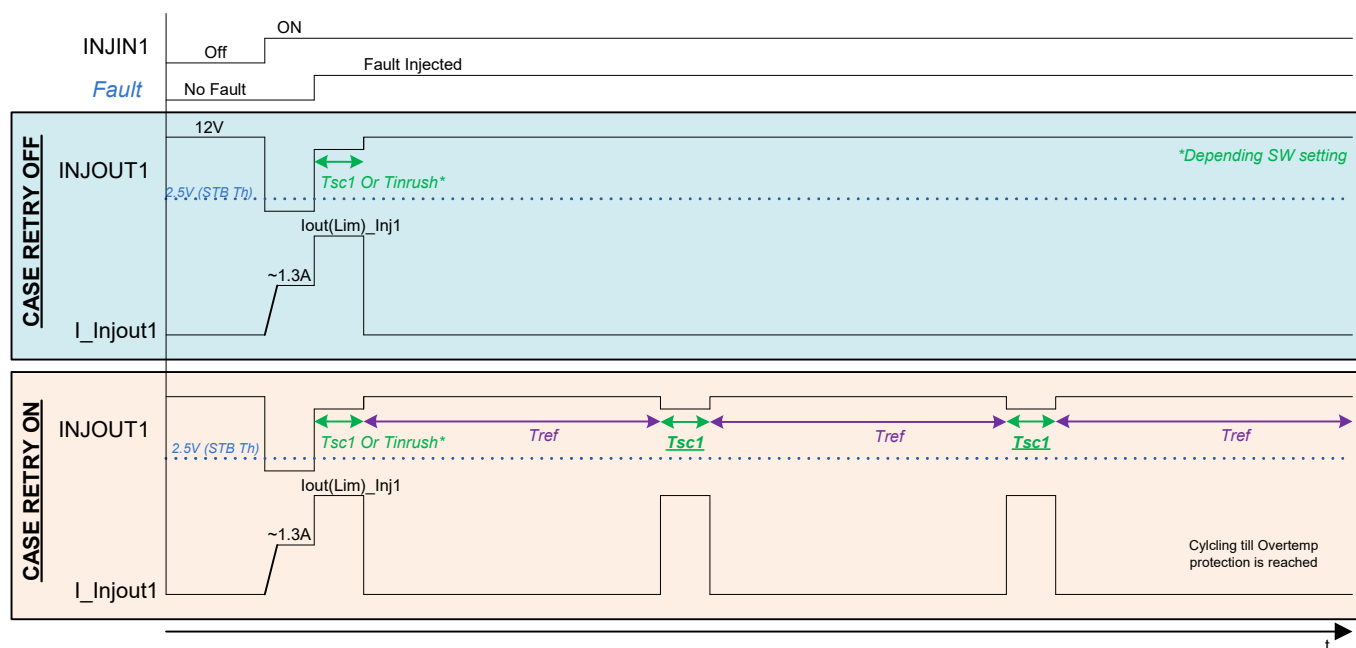

Figure 16. Retry and Inrush feature
When the Retry feature is enabled (Retry Bit for each output) during an overcurrent condition at the end of the Inrush period, the output device turns off and waits until a delay time ( $t_{\text{Ref}}$ ) has passed. After this off time, the output tries to turn on again. If the short is still present, the process starts again. This on/off cycling continues until the output is shut off by command or the overtemperature (OT) on the output device is reached. Note that the Inrush delay resets to its default state for this on/off cycling. See Figure 16.